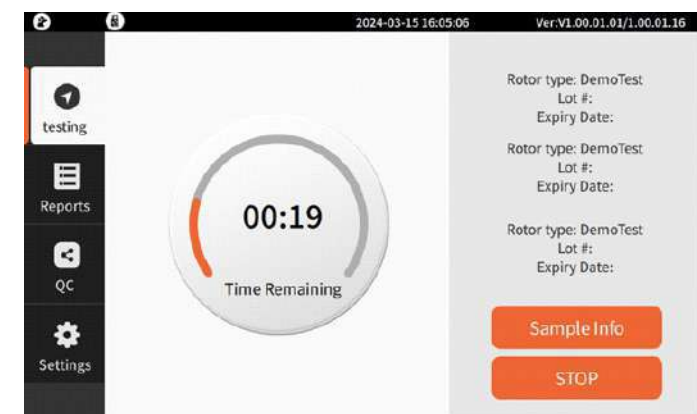

Figure 5-10
- 5) Press "CONFIRM", the drawer will be closed and the analyzer will read the QR code and then enter into testing screen. Please see Figure 5-10.